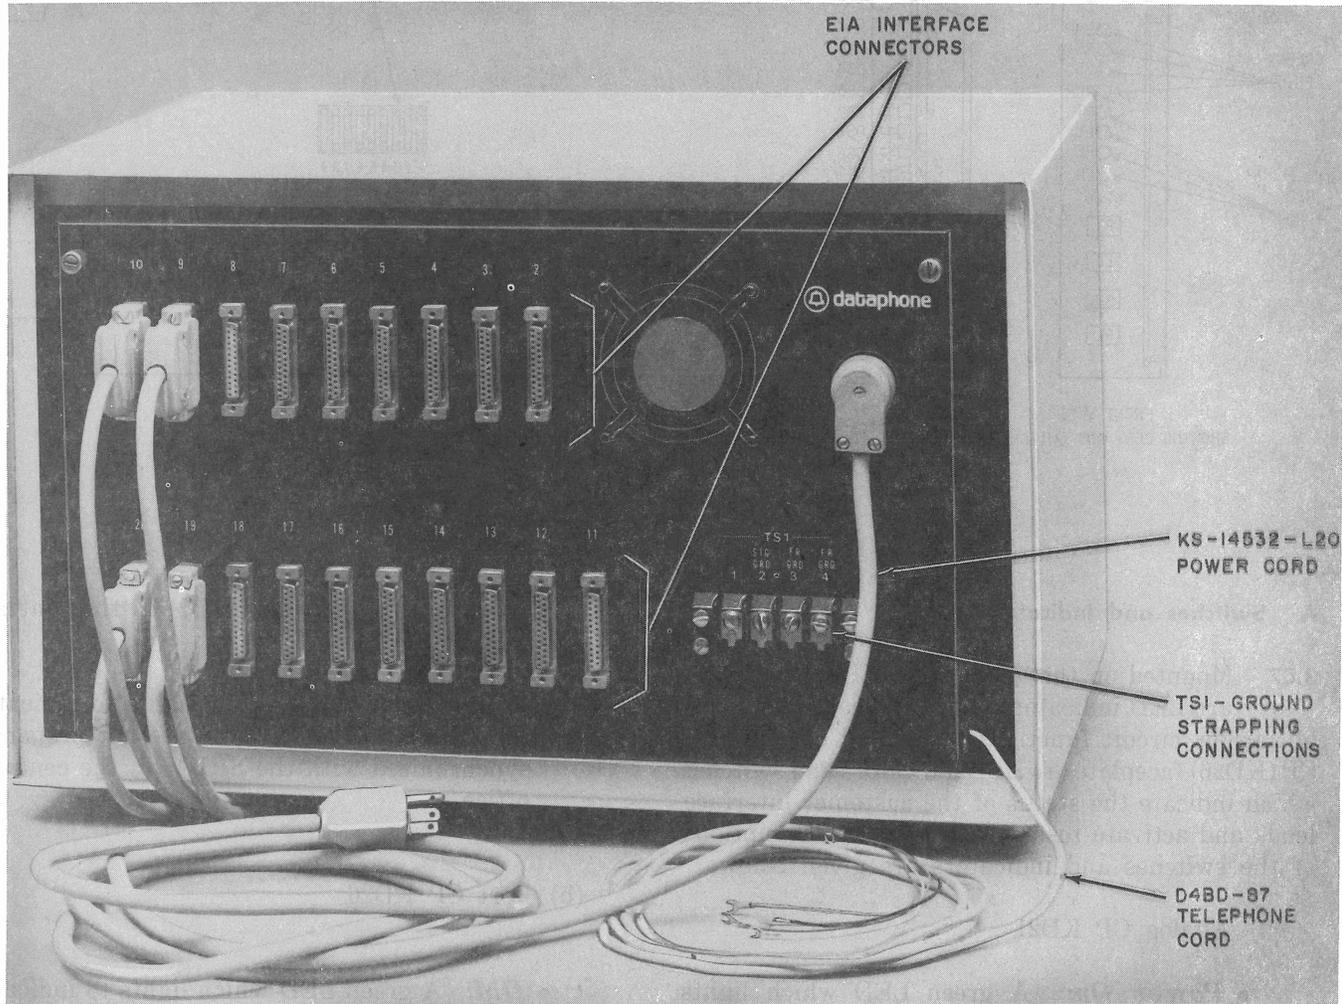

Fig. 8—Rear View of a KS-20018-L19 Cabinet Housing a 510A DSU
**2.04** To permit access to the rear of the 2-shelf nest, the rear panel on the 510A-type DSU (Fig. 8) is hinged at the bottom with push-pull quick operating fasteners at the top. Mounted on the rear panel are nineteen 25-pin EIA interface connectors and a terminal strip (TS1). The interface connectors terminate the customer interface leads of each individual port of the DSU and mate with customer-provided interface cables terminated in a Cinch or Cannon DB-19604-432 plug and a DA-51226-1 hood or equivalent. TS1 has four screw terminals and provides grounding connections.